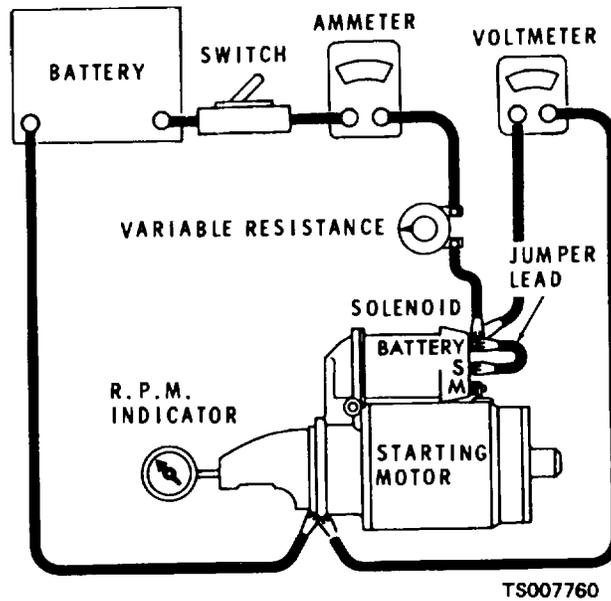

Figure 5-4. Engine Starter No-load Test Setup.
a. Connect the engine starter, a 12-volt battery, an ammeter, a variable resistor, and a voltmeter in a circuit (fig. 5-4). Close the switch to drive the starter. Vary the resistance until the voltmeter reads 9 volts. The ammeter must read between 50 and 80 amperes and the armature speed must be between 5500 and 10,500 RPM as indicated on a tachometer held against the shaft.